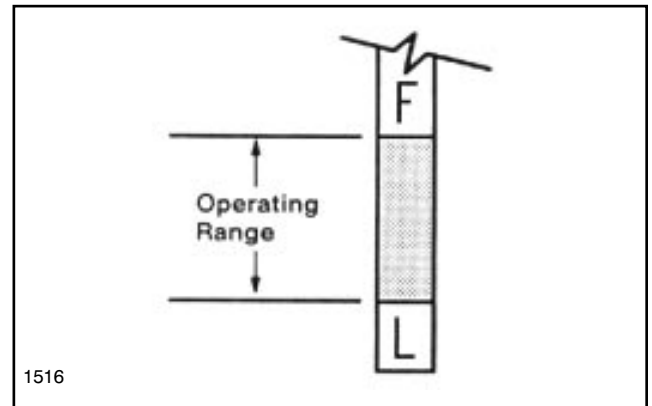

FIG. 2
2. Remove dipstick and wipe oil off with a clean cloth. Insert dipstick into tube making sure dipstick is seated fully, remove dipstick and check level of oil. If oil level is low, remove filler cap and add enough oil to raise level up to, but not over, the "F" mark on the dipstick. **Never** operate with the oil level **below** the "L" mark or **over** the "F" mark on the dipstick. Add the oil slowly and check the level often during this process. (See FIG. 2)